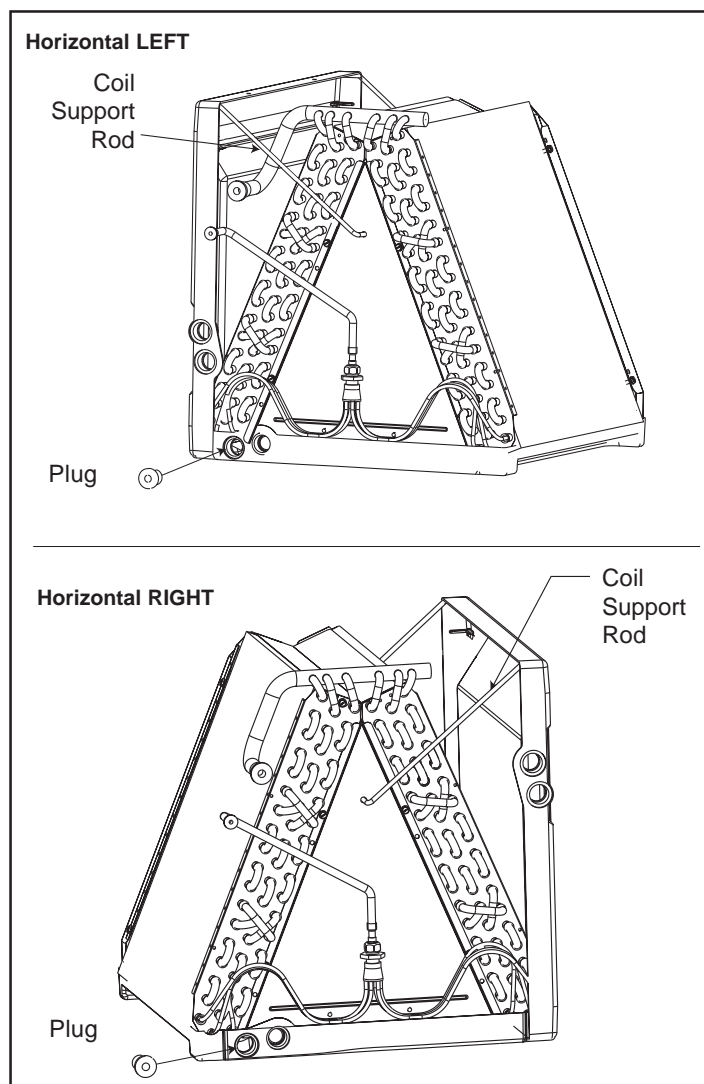

Figure 3
- 6) Attach the horizontal drain pan to the coil as shown (See Figure 3.)